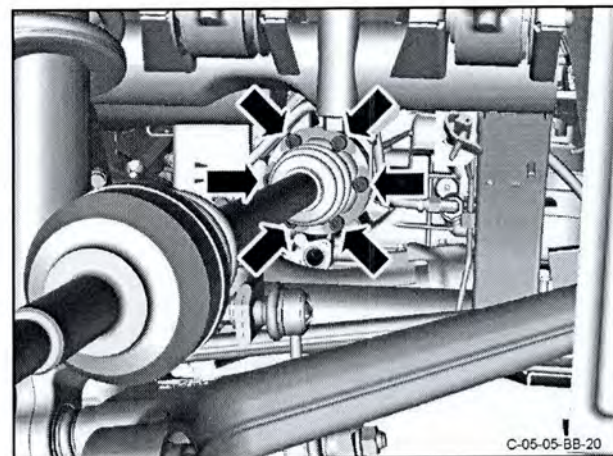

Figure 14
22. Remove and discard the six Allen head bolts that attach the right drive shaft flange to the transaxle. Collect the three locking plates from the drive shaft flange (refer to Figure 14).